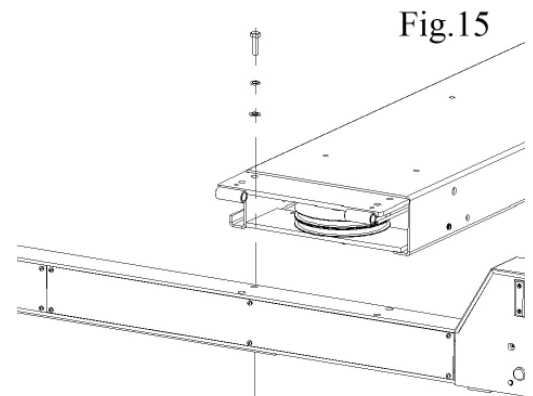

Fig.15
- Line up the runways with the bolt holes in the transverse beams and temperately bolt the screw M16X50 with the nut M16, washer D.16 and locking washer D.16 in position as shown in the figure 15.